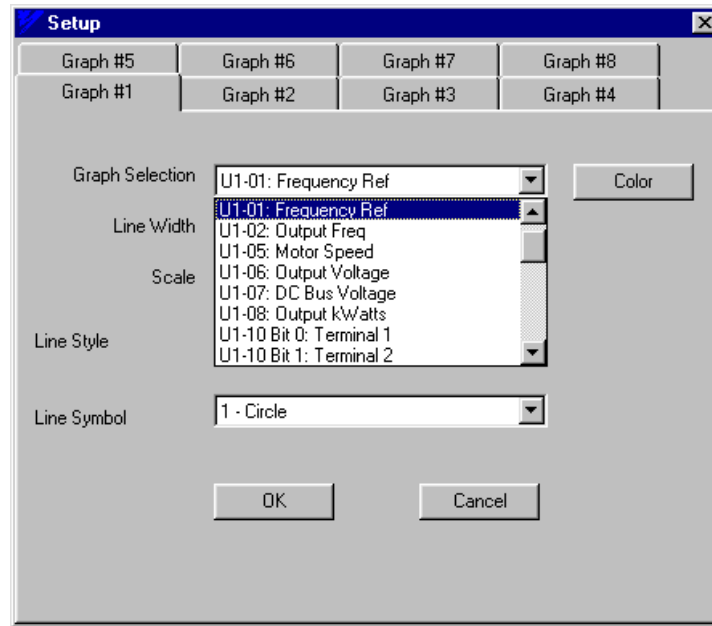

Figure 7.4: Selection of Graph Monitor Selection
- Choose what to graph from the Graph Selection pull-down menu (Figure 7.4).